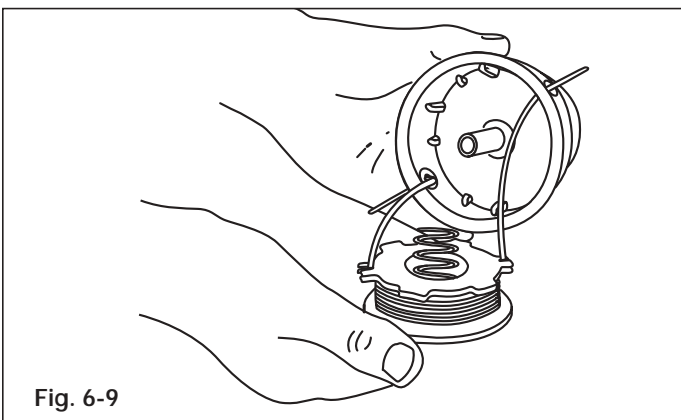

Fig. 6-9
13. Insert the ends of the line through the eyelets in the outer spool and place the inner reel with spring inside the outer spool (Fig. 6-9). Push the inner reel and outer spool together. While holding the inner reel and outer spool, grasp the ends and pull firmly to release the line from the holding slots in the reel.
5. Insert the ends of the line through the eyelets in the outer spool (Fig. 6-9).